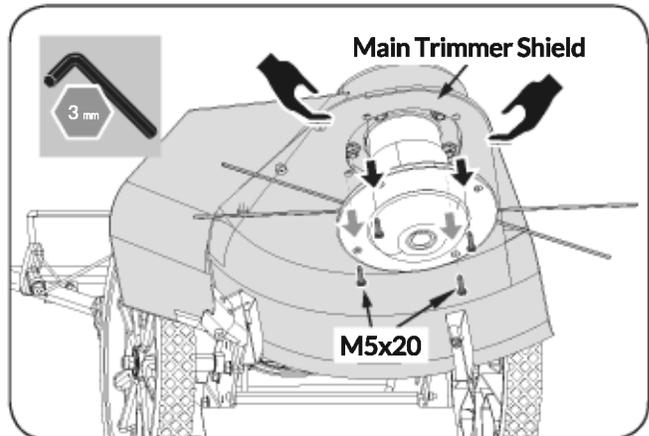

Figure 19
3. Keep both wheels in contact with the ground and turn the machine backward and up, requiring a helping hand from the other person to hold the machine steady. Remove the four M5x20 screws that hold the main trimmer shield to the deck. (See **Figure 19**)